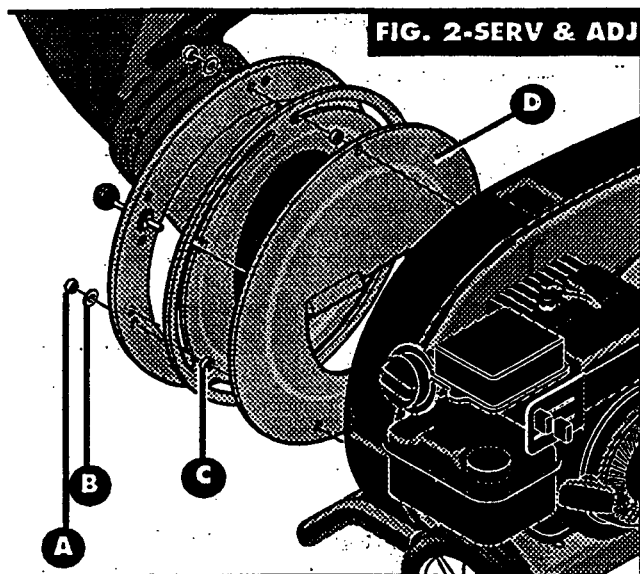

FIG. 2-SERV & ADJ
- Leaves and small branches can be fed into the Hopper assembly when it is in the raised position (See FIG. 2-OP). If it becomes necessary to push material into the Chipper/Shredder, use the supplied debris tamper - **NOT YOUR HANDS**.
- Remove the three (3) hex locknuts (item A) and flatwashers (item B) from the housing studs and carefully separate the Hopper assembly from the remainder of the unit (See FIG. 2-SERV. & ADJ.).
- Remove the three (3) bushings (item C) and stationary plate (item D). (See FIG. 2-SERV. & ADJ.) **NOTE:** When reassembling, make certain the opening of the stationary plate is toward the bottom of the unit and the offset, is facing toward the impeller assembly.
- Remove the three (3) hex locknuts (item A) and flatwashers (item B) from the housing studs and carefully separate the Hopper assembly from the remainder of the unit (See FIG. 2-SERV & ADJ.).
- Remove the three (3) bushings (item C) and stationary plate (item D) (See FIG. 2-SERV & ADJ.) **(NOTE:** When reassembling, make certain the opening of the stationary plate is toward the bottom of the unit and the offset, is facing toward the impeller assembly).